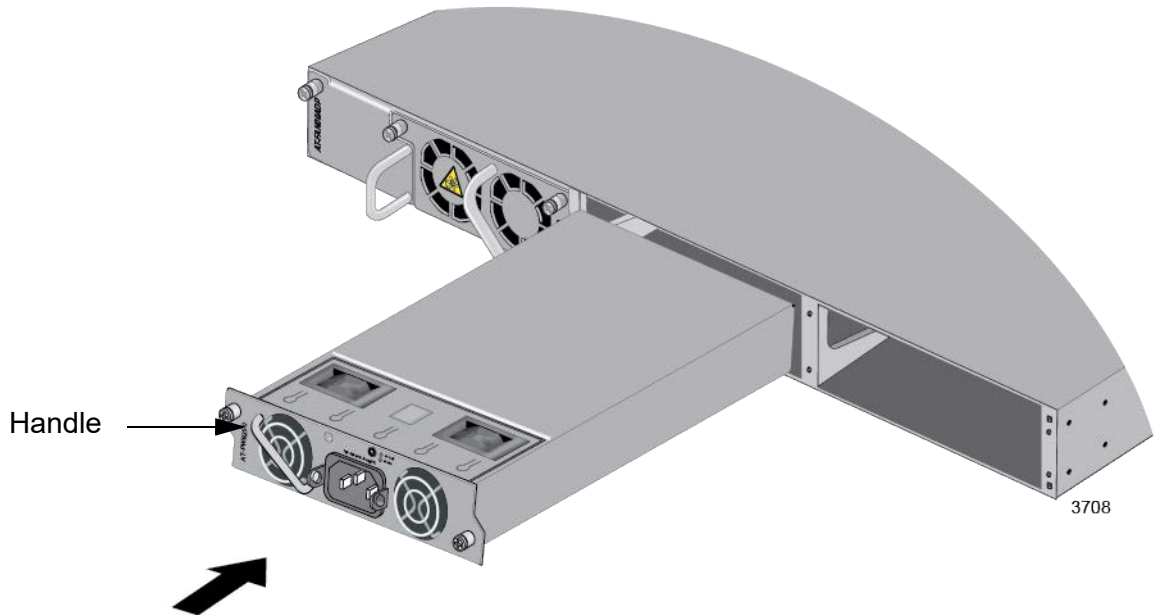

Figure 22. Installing a Power Supply
- Slide the new power supply into slot A or B in the back panel of the switch. Refer to Figure 22 on page 71.
- The handle on the power supply should be on the left as you install the module in the switch. Refer to Figure 22 on page 71.